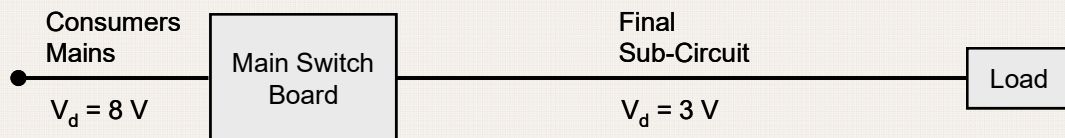

figure 5.
1. Figure 5 is a 230 V single phase installation. Determine the total conductor voltage drop.
2. Does the circuit of figure 5 comply with Australian standards (yes/No) why?